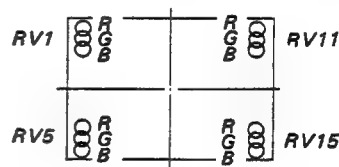

Fig. 1-14.
5. Adjust RV1, RV5 and RV11, RV15 on the DC board to coincide with the R, G and B dots as shown in Fig. 1-14.